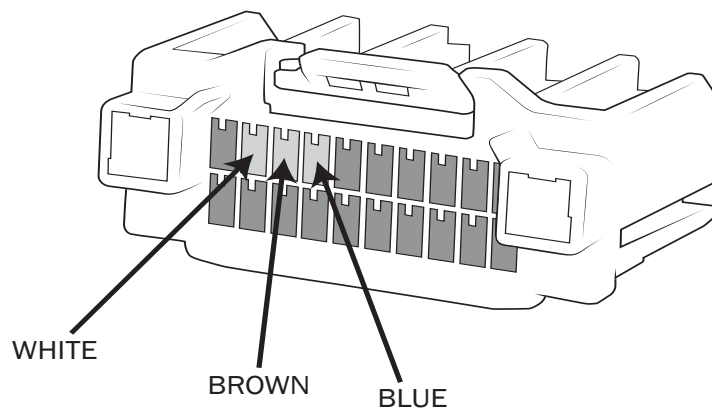

Figure 7
3. Install three pins from Harness B into the white plug as shown (fig. 7).